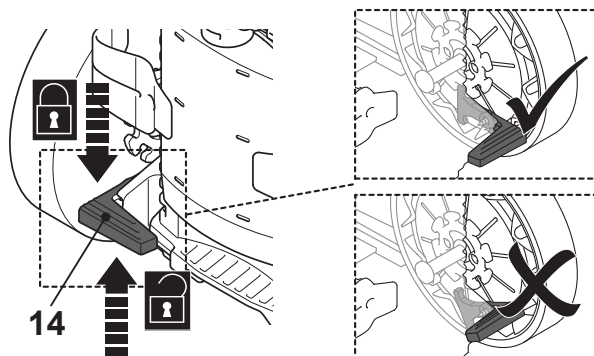

Fig. 20
1. Step down the brake pedal (14) to lock the rear wheel. Slightly move the wheel to ensure the brake lever is engaged properly. (Fig. 20).